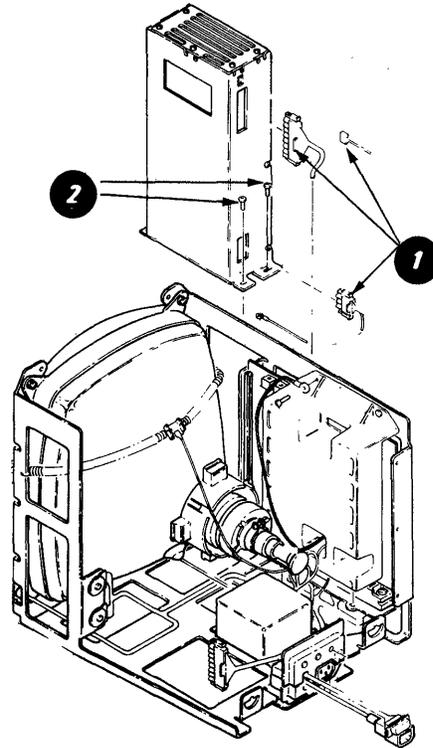

Figure 4-21. Low Voltage Power Supply Removal
4. Disconnect LV1 (LED 0), LV2 (DC), and LV3 (AC) connectors ① from the low voltage power supply. (See Figure 4-21.)
5. Remove the four screws and the power supply ②.